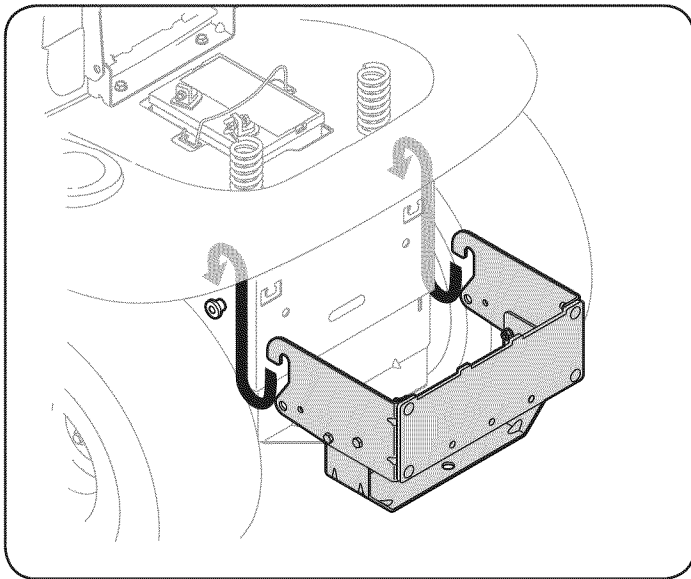

Figure 5
1. Place the hooked ends of the mounting assembly over the shoulder bolts, as in Fig. 5, on the tractor and line up the hitch support bracket center hole with the hole on the tractor's hitch.